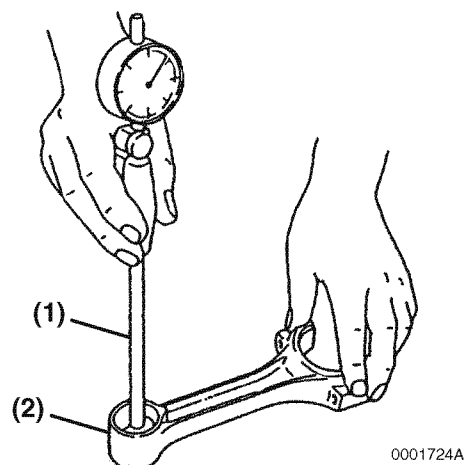

Figure 6-119
1. Measure the wrist pin bushing bore using a bore gauge (**Figure 6-119, (1)**). Replace the bushing if not within specifications. If the bushing has been removed, measure the inside diameter of the connecting rod small end (**Figure 6-119, (2)**). See *Connecting Rod* on page 6-20 for specifications.